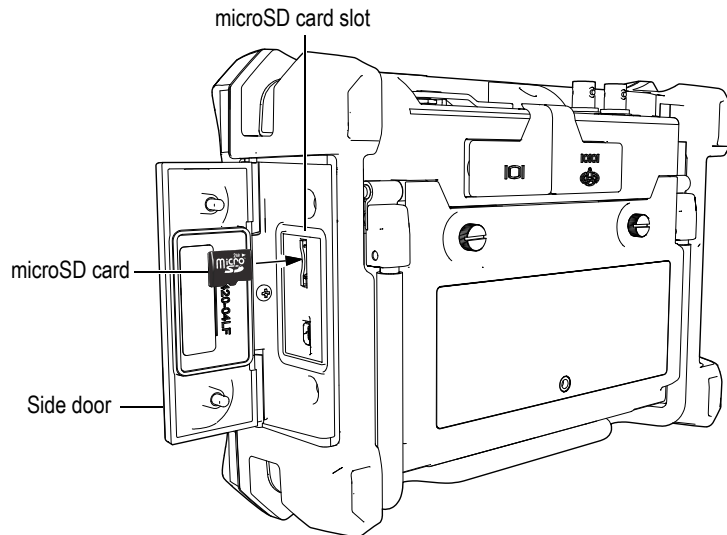

Figure 1-19 Installing the microSD card
2. Loosen the two thumb screws, and then open the computer connection protective cover (see Figure 1-19 on page 51).